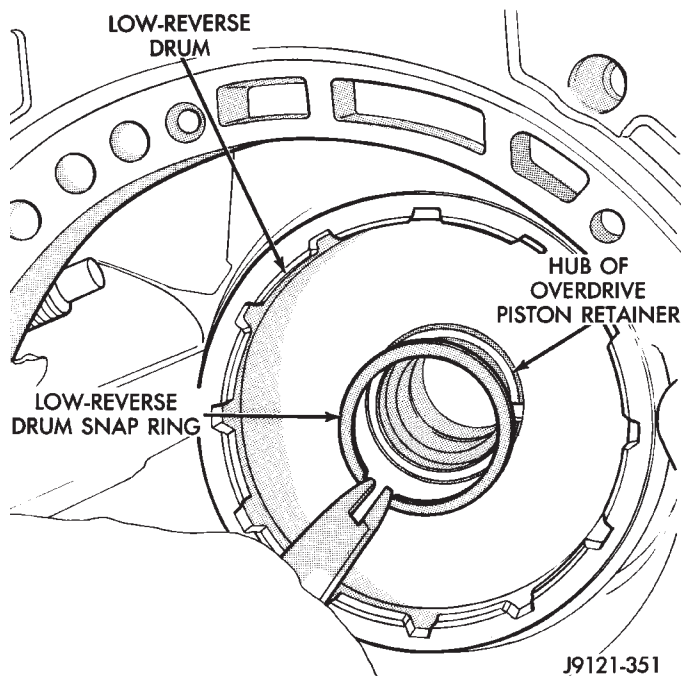

Fig. 150 Installing Low-Reverse Drum Retaining Snap Ring
(15) Install snap ring that secures low-reverse drum to hub of piston retainer (Fig. 150).